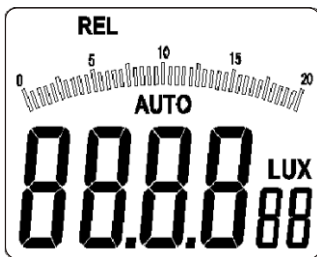

Figure 3-1-2A
- Press and hold REL/PEAK key for a short time (composite key for relative/peak value measurement), "REL" will appear on the top left position of the LCD interface (as shown in figure 3-1-2A), and the device will enter the relative value measurement mode;